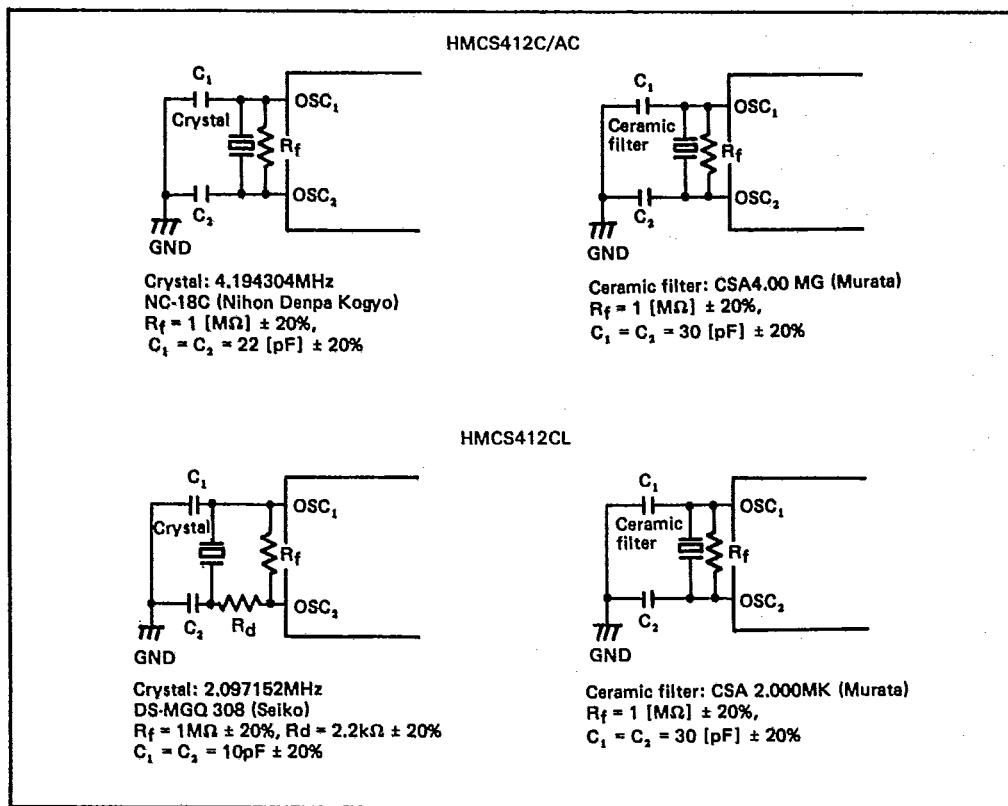

Figure 21. Oscillation Circuit
1. Oscillator stabilization time is the time until the oscillator stabilizes after  $V_{cc}$  reaches its minimum allowable voltage (HMCS412C; 3.5 V, HMCS412CL; 2.5 V, HMCS412AC; 4.5 V) after power-on, or after RESET goes high. At power-on or stop mode release, RESET must be kept high for at least  $t_{RC}$ . Since  $t_{RC}$  depends on the crystal or ceramic filter's circuit constant and stray capacitance, please get the manufacturer's advice when designing the RESET circuit. (See figure 21.)